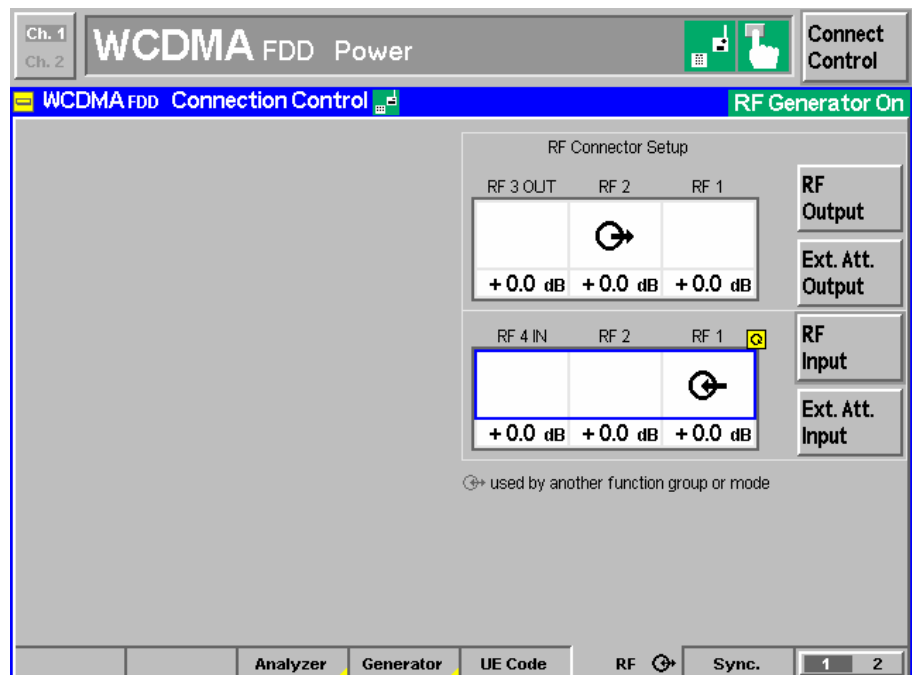
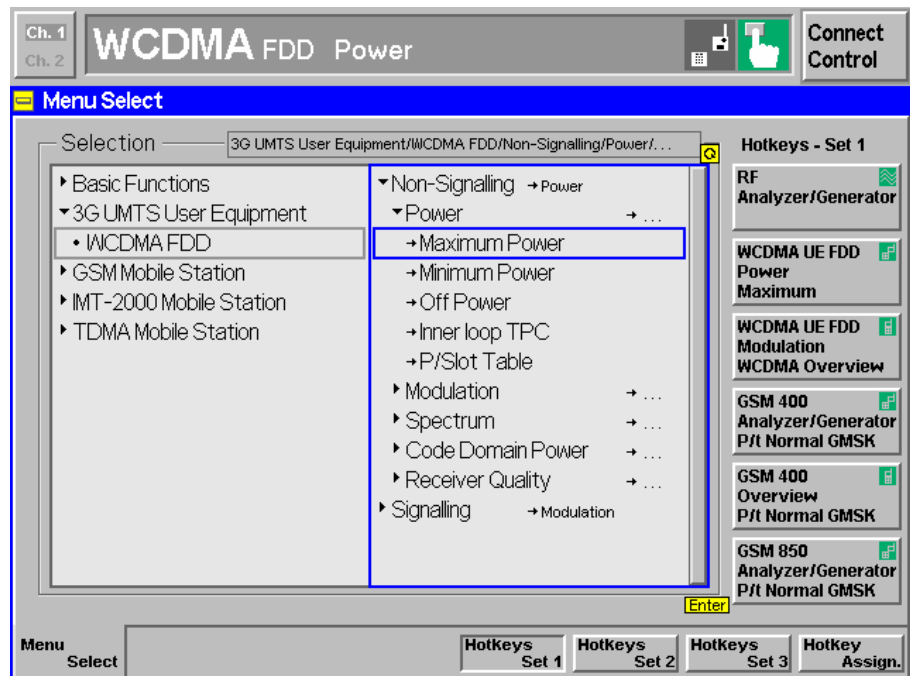

Fig. 21 CMU RF Setup
Fig. 23 CMU Mode
10. The resulting Average MS Power P_{MEAS} (Fig. 23) must be subtracted from the reference power P_{REF} (Fig. 21) to obtain the **INSERTION LOSS** of the IQ path.